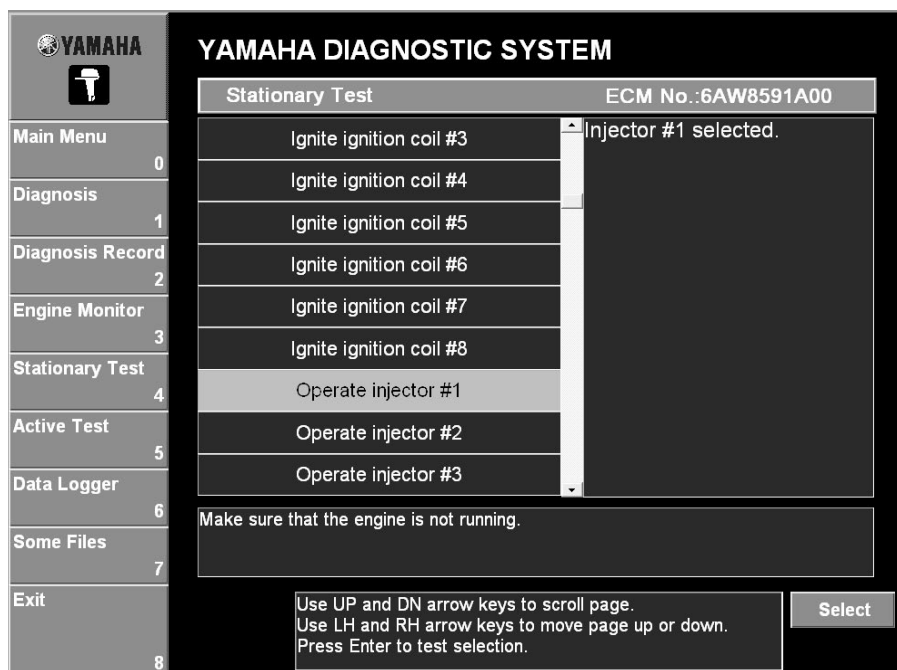

Fig. 77
2. Select the cylinder to be tested, and then click the **Select** button or press the Enter key on your keyboard. (See fig. 77.)